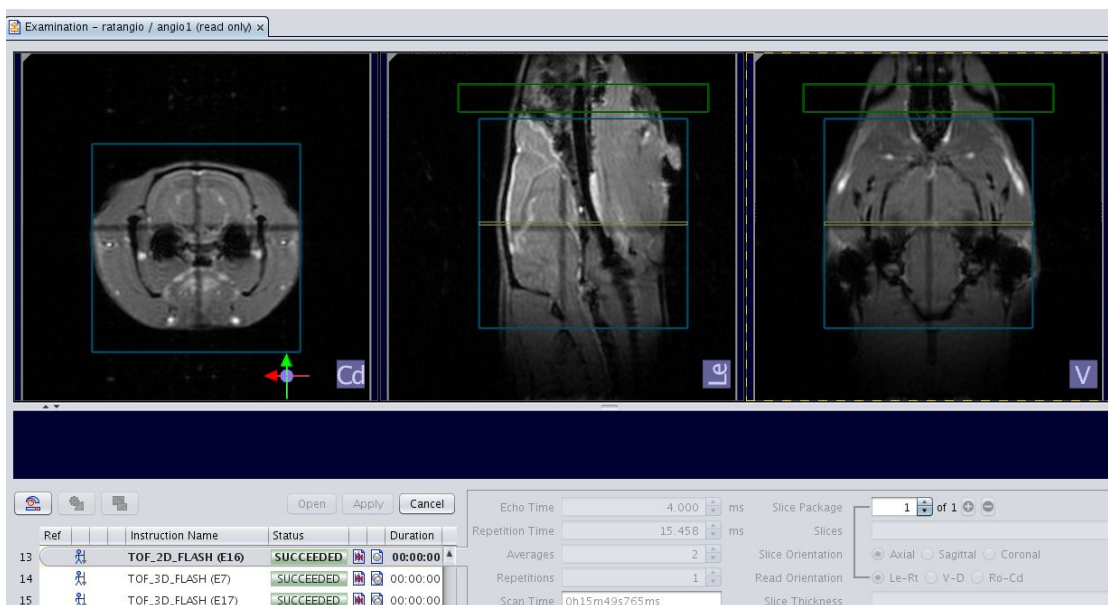

Figure 2.81: Setup of Flow Saturation Slices to image only the arteries of the rat brain
- Vein or arteries can be selectively imaged using different placement of saturation slices (see [Figure 2.81 \[▶ 535\]](#)). To set a flow saturation slice, activate the FlowSat module on the Contrast Card. Position the saturation slice using the Geometry tool. To image arteries position the saturation slice on the rostral side of the image volume and to image veins position the saturation slice on the caudal side of the image volume.